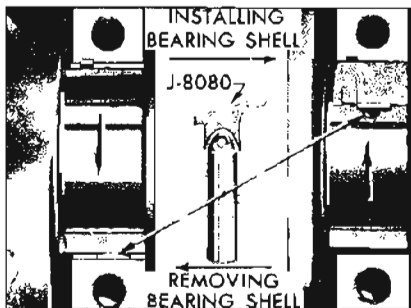

Figure 2-42—Removing and Installing Crankshaft Bearing Upper Shell
2. Remove upper bearing shell by inserting Bearing Shell Remover and Installer J-8080 in oil hole in crankshaft, then slowly turning crankshaft so that the tool rotates the shell out of place by pushing against the end without the tang. See Figure 2-42. CAUTION: When turning crankshaft with rear bearing cap removed hold oil seal to prevent it from rotating out of position in crankcase.